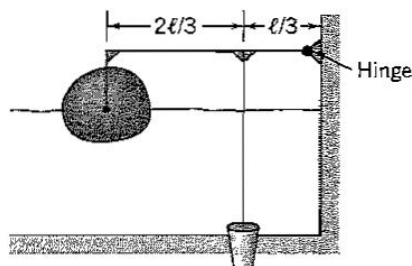

Figure P2.84
2.84 A float and lever system is used to open a drain valve, as shown in Figure P2.84.